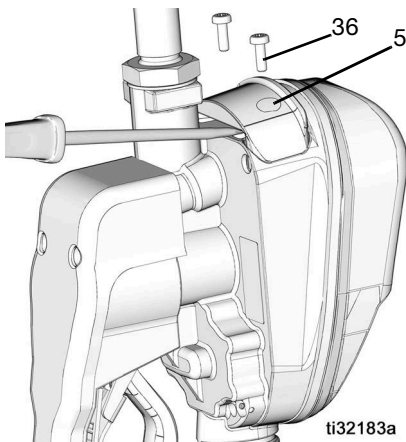

FIG. 77
1. Remove screws (36) from the battery compartment cover (5).
2. Use a small, flat screwdriver to gently pry the cover away from the metered dispense valve housing on the bottom side of the cover, near the extension attachment as shown in FIG. 77.